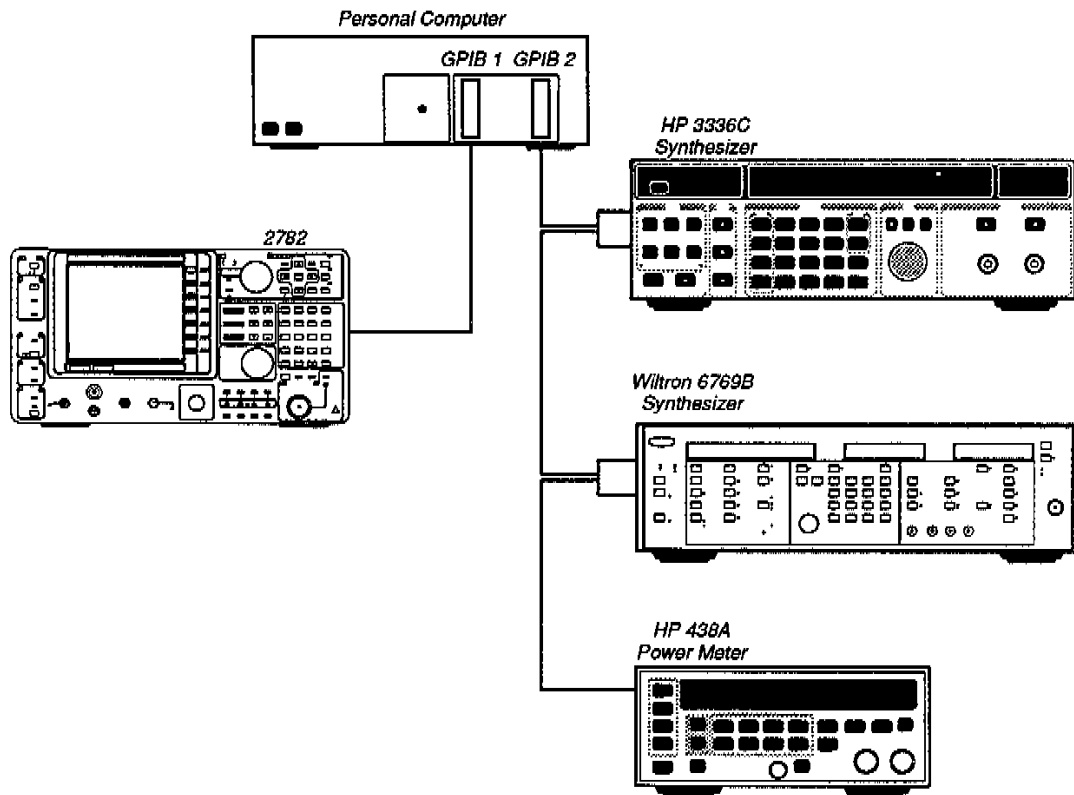

Figure 3-1. GPIB Connections for Flatness Checks.
2. Connect 2782, signal generators, and power meter to the computer through GPIB cables, as shown in Figure 3-1.